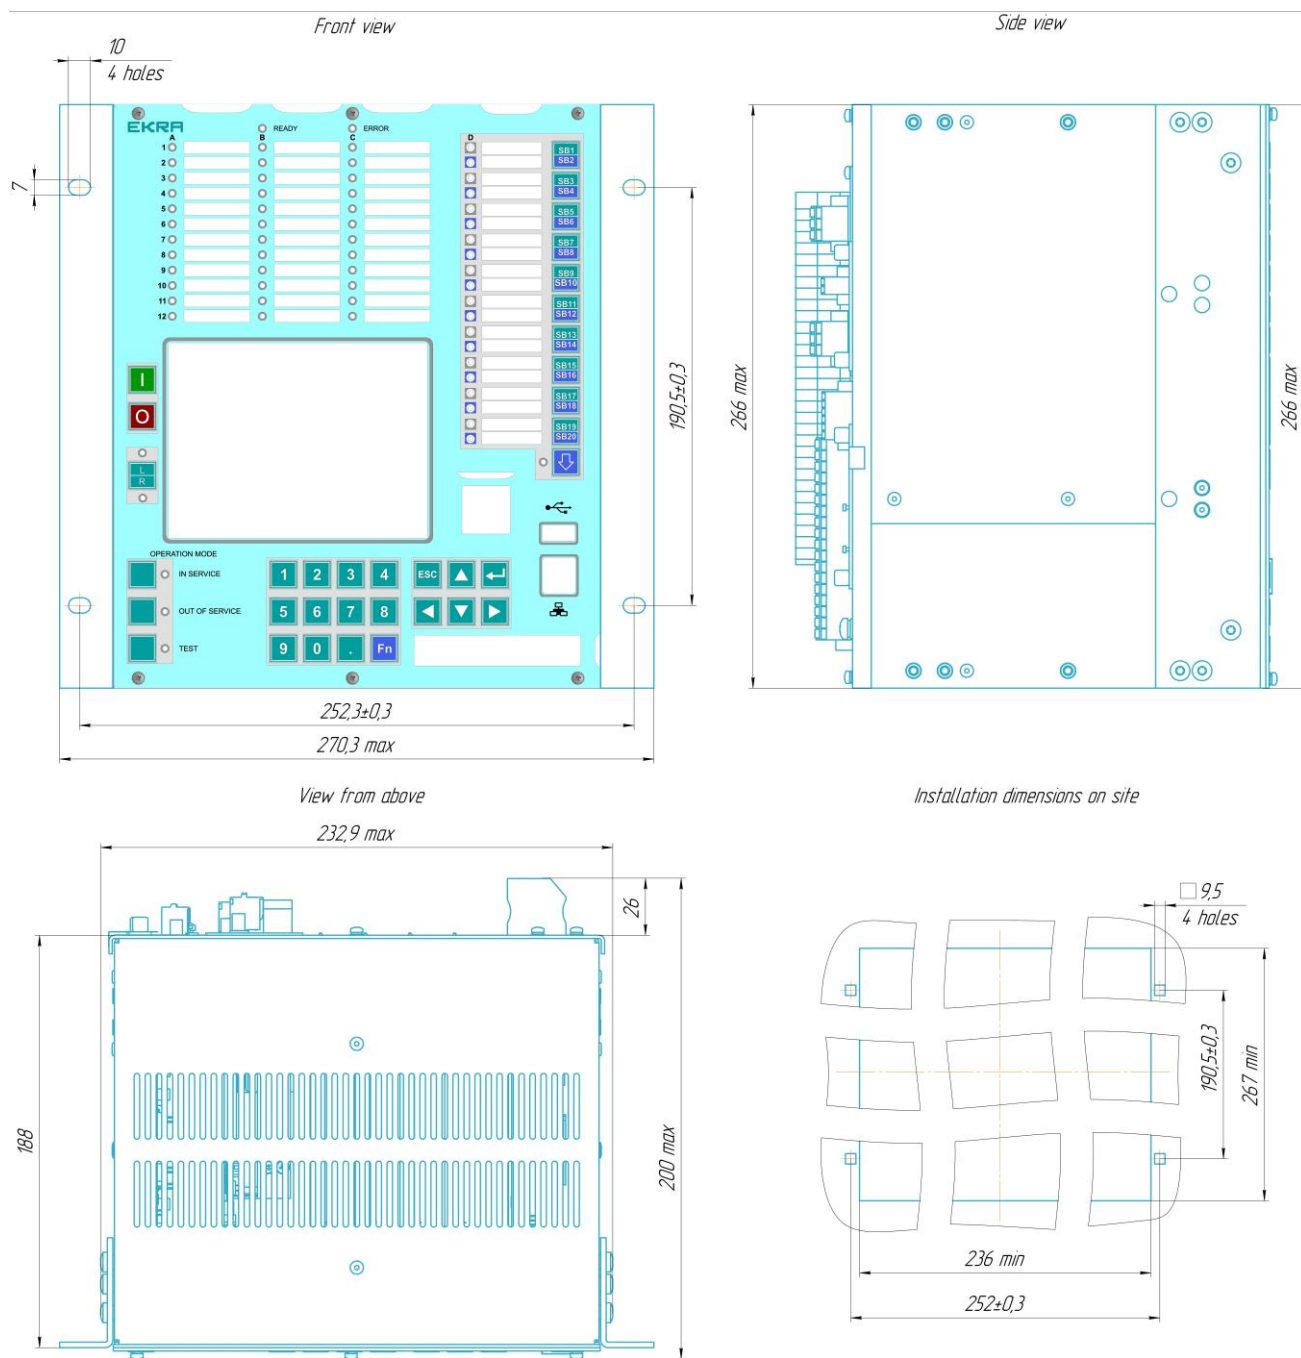

Figure 10 – General view, overall, installation dimensions of the ED2 devices of ½ 19" design
5.9.2 General view, overall, installation dimensions of the ED2 devices of ½ 19" design are shown in figure 10.